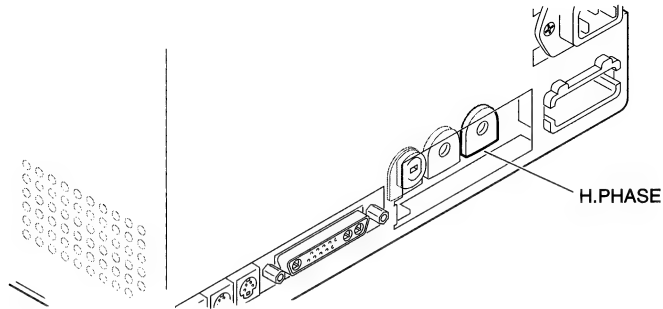

Figure 5 H.PHASE Control
5. FIGURE 5. Turn the H.PHASE control until the raster is centered (left to right) in the display area.